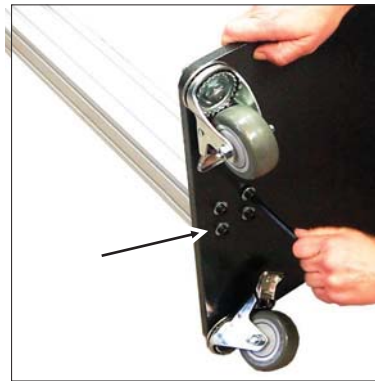

Fig. 2a
1. After unpacking, locate the base and column/cross-frame assembly (Fig 2). Orient the column to the base, as shown in Fig. 2a. Assemble using the four (4) SHCS. Use the 1/4" hex key.